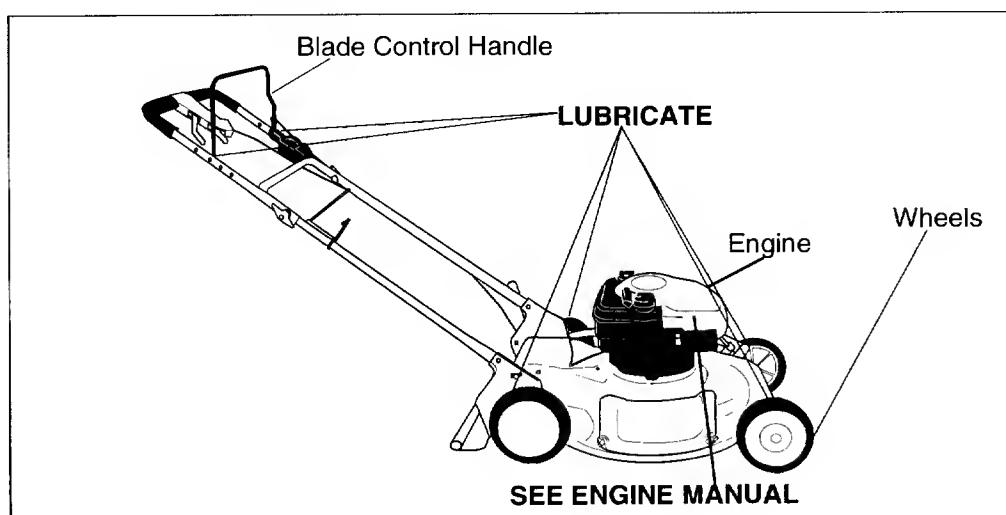

Figure 13
**Blade Control:** Lubricate the pivot points on the blade control handle and the brake cable at least once a season with light oil. See Figure 13. The blade control must operate freely in both directions.
**Wheels:** Lubricate the wheels at least once a season with light oil (or engine oil). Also, if the wheels are removed for any reason, lubricate the surface of the axle bolt and the inner surface of the wheel with light oil. See Figure 13.